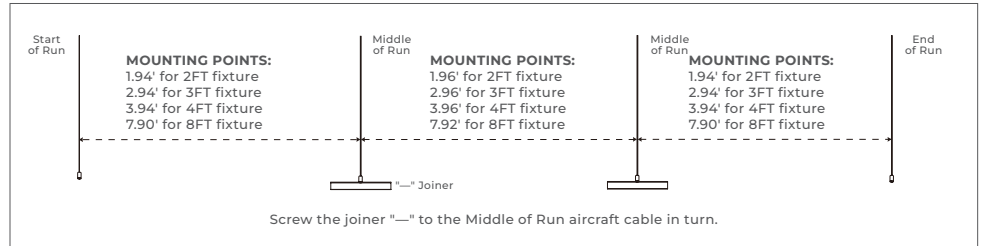

FIGURE 4-4
2) Prep mounting surface as shown in Figure 4-4.